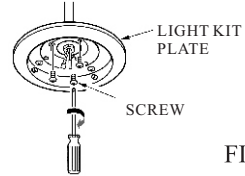

FIG.13
3. Tighten screws (see fig.13)